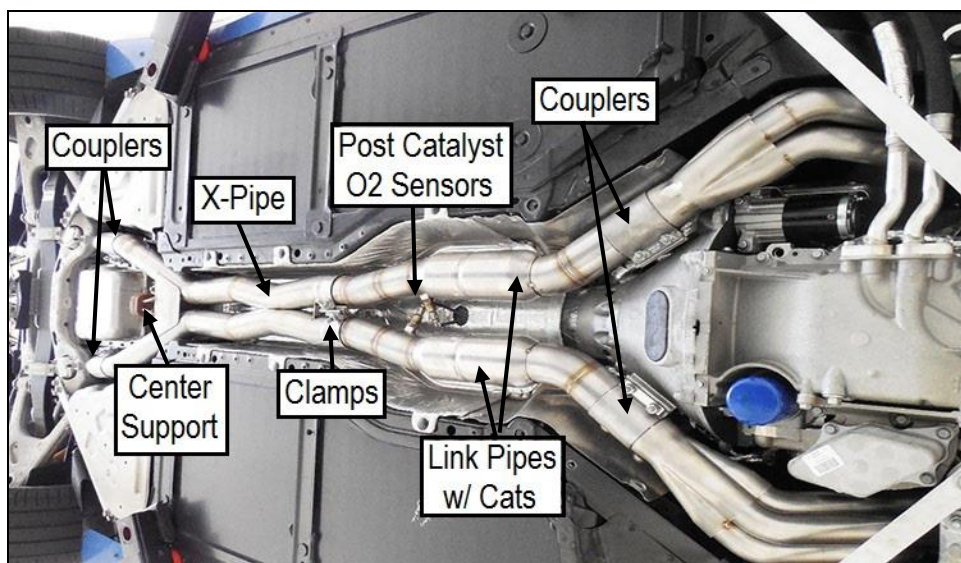

Figure 6
9. Install the 76mm band clamps onto each inlet pipe of the Blackheart X-pipe (expanded end with notches). The clamps need to be configured so the threaded stud of the clamp is positioned to align with the cut out in the lower skid plate (**Figure 6**).
10. Install the RIGHT Cat link pipe (long link pipe) into the X-pipe's short expanded end (**Figure 6**). Tighten the clamp to allow for adjustment.
11. Install the LEFT Cat link pipe (short link pipe) into the X-pipe's long expanded end (**Figure 6**). Tighten the clamp to allow for adjustment.
16. Install the 3" Torca couplers onto the outlet of the X-pipe with the bolts towards the transmission and nuts facing down (**Figure 6**).